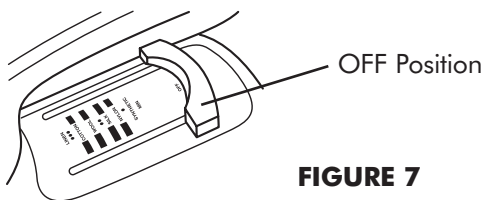

FIGURE 7
1. Position the Temperature Control to the OFF position (see Figure 7).